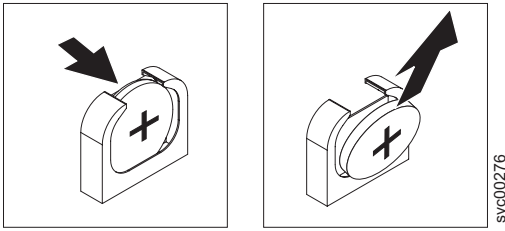

Figure 130. SAN Volume Controller 2145-CG8 or 2145-CF8 CMOS battery holder
8. Remove the CMOS battery, as shown in Figure 130 on page 148: